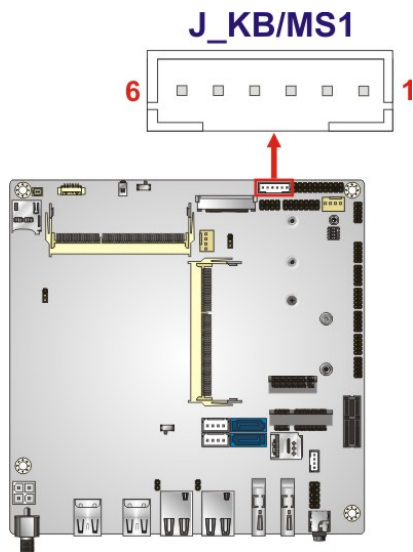

Figure 3-9: Keyboard and Mouse Connector Location
- CN Location:** See Figure 3-9